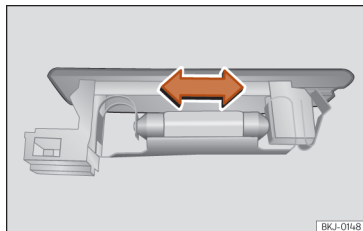

Fig. 168 Boot light.
- Press the bulb sideways and remove it from its housing >>> Fig. 168.